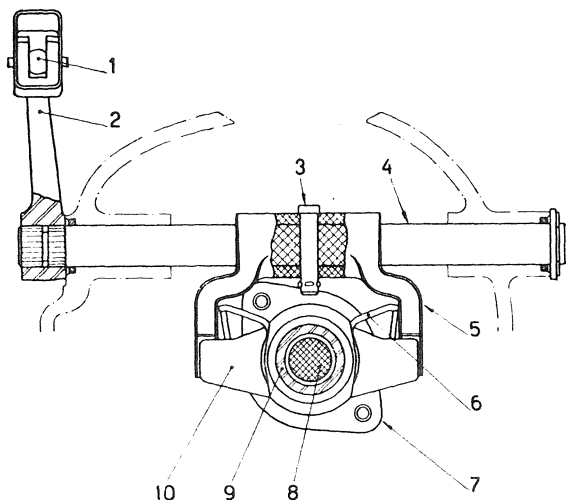

Fig. 196 - Clutch rear throwout control.
1) a forked lever, integral with a shaft (passing through clutch housing) on which is keyed the outer operating lever (fig. 196);
The throwout bearing is pressed against withdrawal levers by a sleeve connected to forked lever (fig. 196).